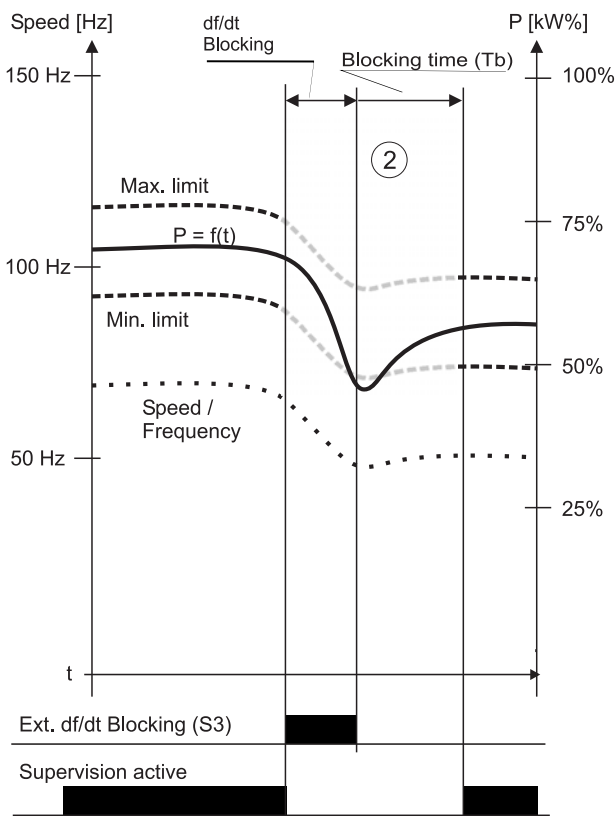

Figure 4.7 Controlled df/dt blocking (S3)
Via the digital input S3 (27) the supervision may likewise be disabled externally. This may be done for instance using a signal from the frequency inverter telling that the speed is reached. The supervision remains disabled as long as the input S3 is active but may be extended with the blocking time T_b (2) - see figure 4.7.